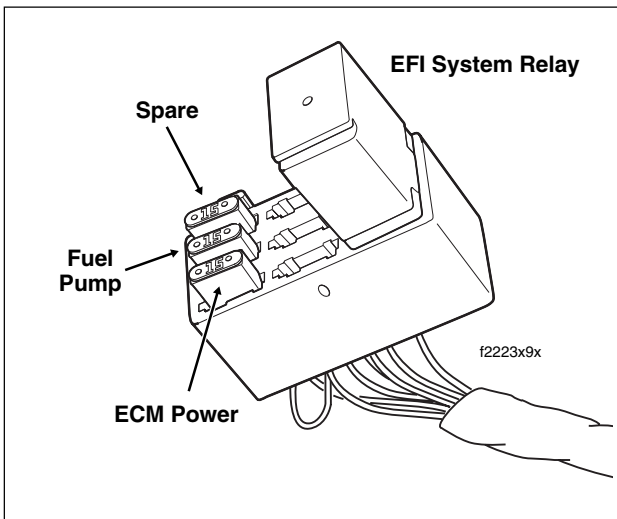

Figure 9-3. EFI Fuse Block
4. Pull relay from slots in fuse block. See Figure 9-3.
1. Install relay in slots of fuse block. See Figure 9-3.
4. Pull fuses from slots in fuse block and inspect for damage. Replace fuse if the element is burned or broken. Automotive type ATO fuses are used. See Figure 9-3.
1. Insert fuse in the appropriate slot. See Figure 9-3.